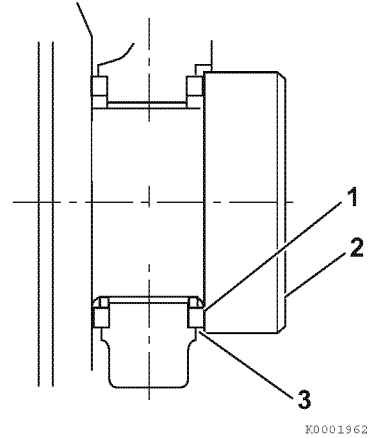

Figure 6-106
- **Method B:** Use a feeler gauge to measure the clearance (3, **Figure 6-106**) between the thrust bearing (1, **Figure 6-106**) and crankshaft (2, **Figure 6-106**). Record the measurement. See *Thrust Bearing on page 6-12 for the service limit.*